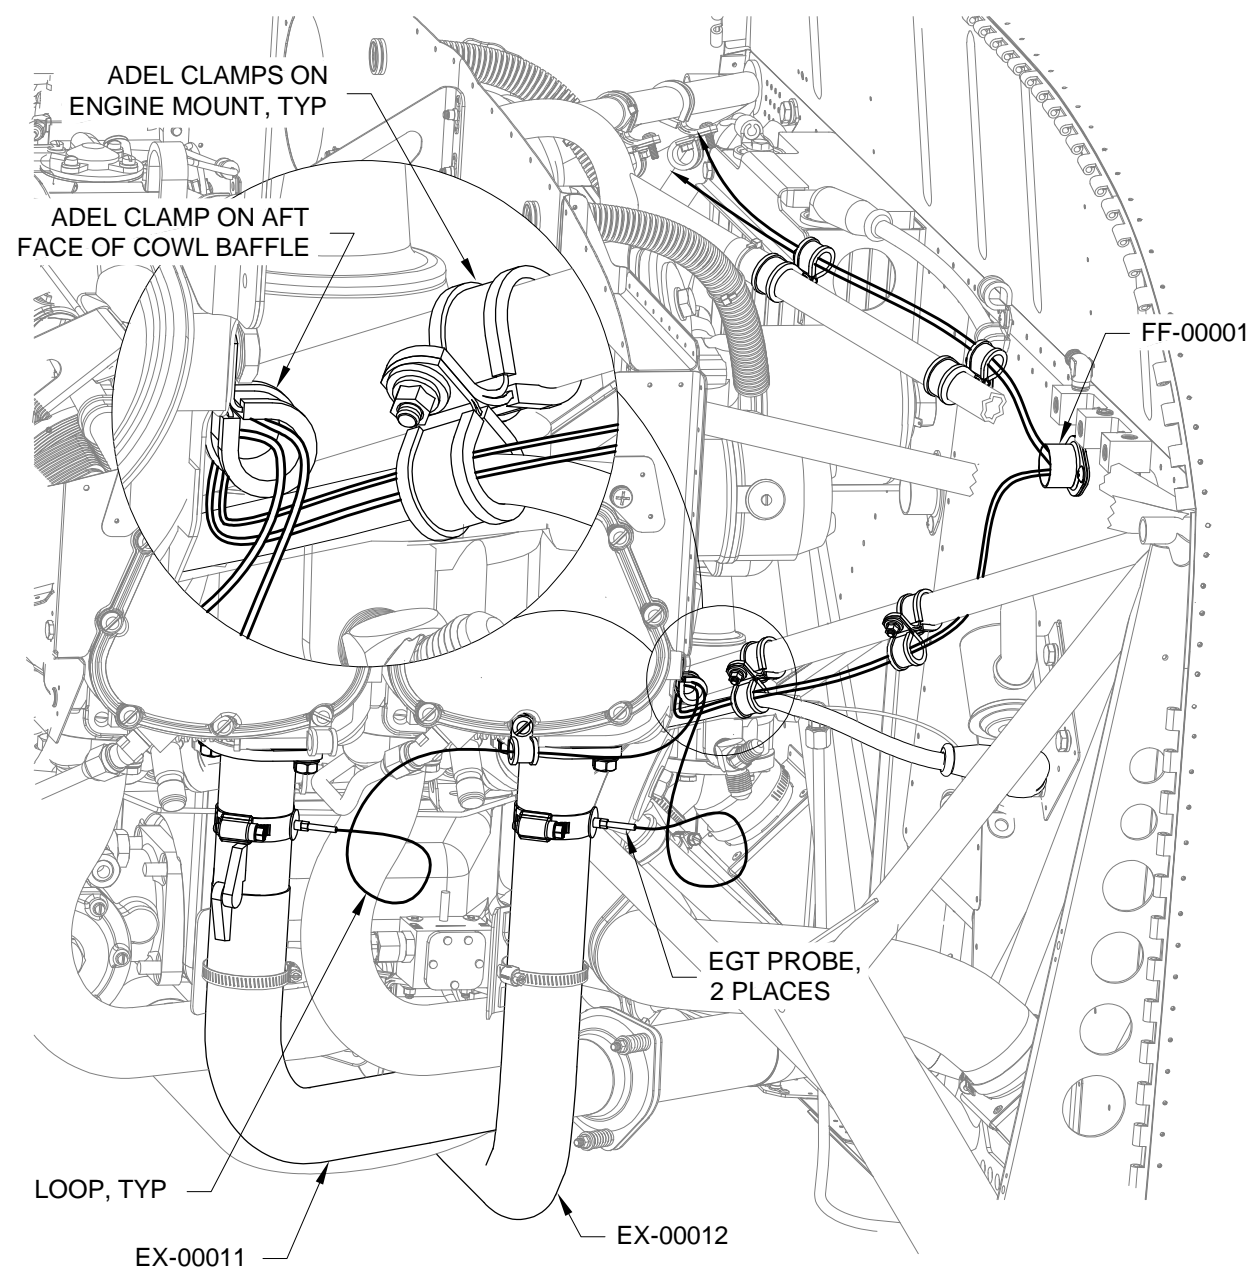

FIGURE 1: LEFT SIDE EGT INSTALLATION
Step 2: Route the EGT wires as shown in Figure 1 and Figure 2. Position a dip or loop (as wire length allows) in the wire adjacent to each probe.